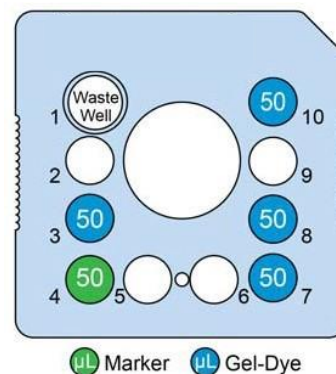
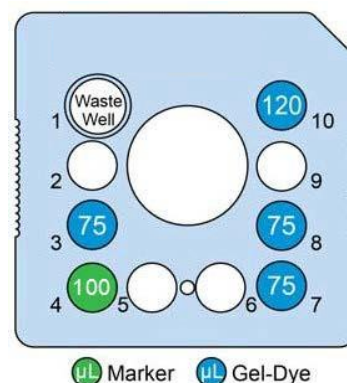

Figure 1. Low-Throughput Chip Preparation
Figure 2. High-Throughput Chip Preparation
3. Using a Reverse Pipetting Technique, add Gel solution to chip wells 3, 7, 8, and 10 as shown in **Figure 1 (LT)** or **Figure 2 (HT)**.
4. Add **50 µL (LT)** or **100 µL (HT)** **FFA Marker** ● to chip well 4 as shown in **Figure 1 (LT)** or **Figure 2 (HT)**.